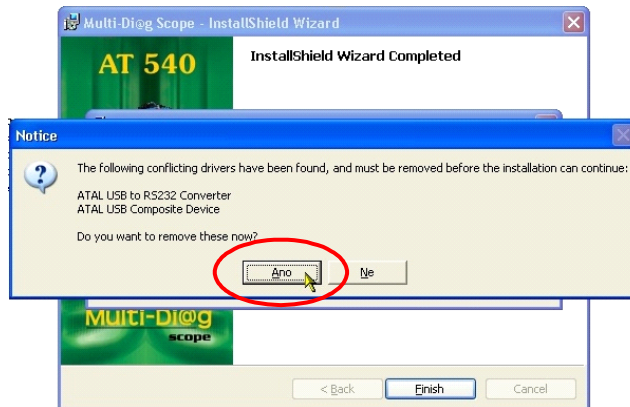

Fig. 9 – The result of a search for old drivers – it is recommended to uninstall them (Yes/No)
- a) If **old drivers are detected**, the information about their presence will be displayed (see Fig. 9) together with a suggestion for their removal. It is recommended that you remove the old drivers.